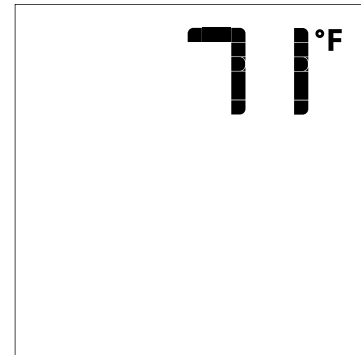

Figure 60
4. With the system ON, press the ON/OFF Key on the Transmitter. The Transmitter LCD display will show the room temperature. **See Figure 60.** At the same time the Receiver will turn off the appliance.